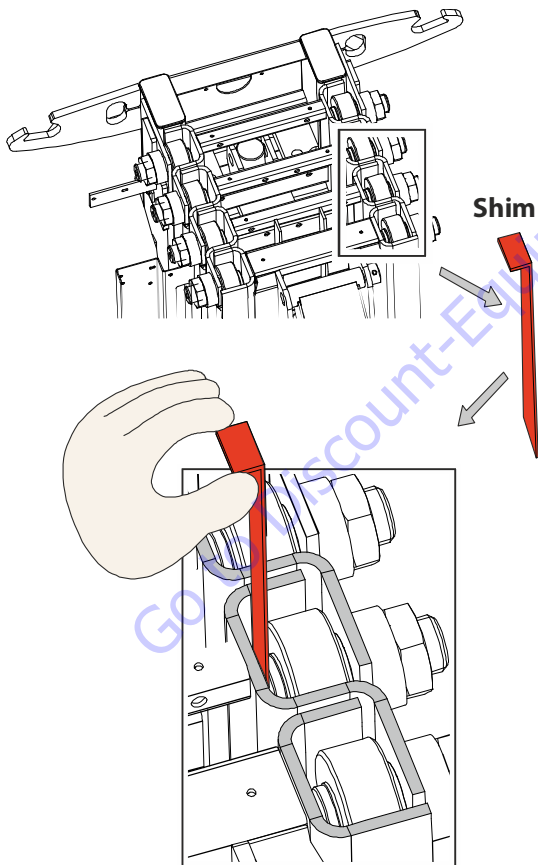

Figure 5-23. Adjusting Top Roller Play
- On each top roller, on right side of the machine, loosen roller to be able to insert a 0.5 mm shim (between roller pad and mast profile), see Figure 5-23.